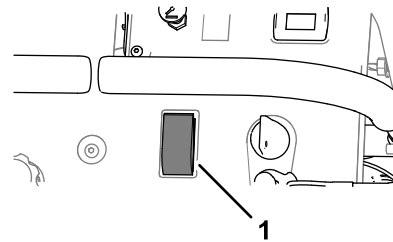

**Figure 36**
4. Rotate the valve handles as shown in Figure 36.